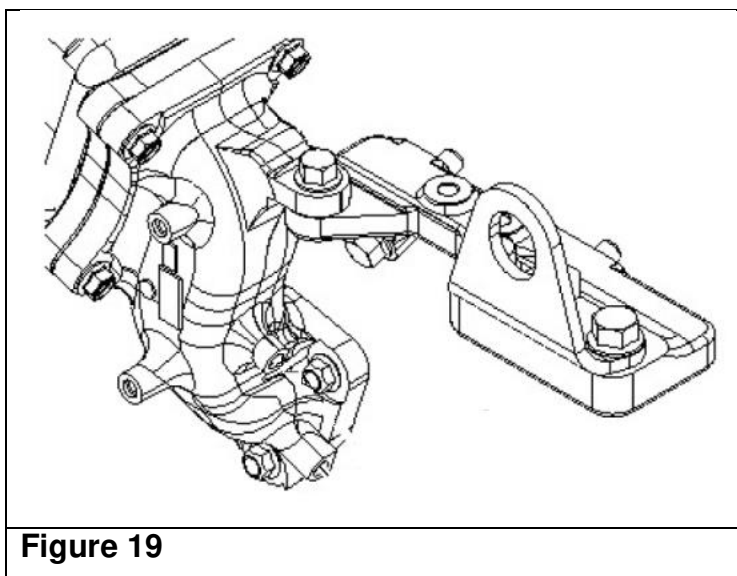

Figure 19
22. Install the Number 1 EGR Cooler Duct Bracket. (See Figure 19.) Tighten the three (3) bracket bolts to 48 N·m (35 lb·ft).